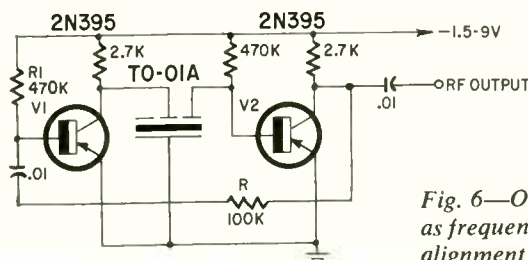

Fig. 6—Overtone radial resonator filter used as frequency-determining element in a 455-kc alignment generator.
A rather novel circuit is shown in Fig. 6. Here, a TO-01A is used as the frequency-determining element in a simple, yet very stable, 455-kc alignment generator. In operation, V1 and V2 form a
*Prototype of the generator shown in Fig. 6.*